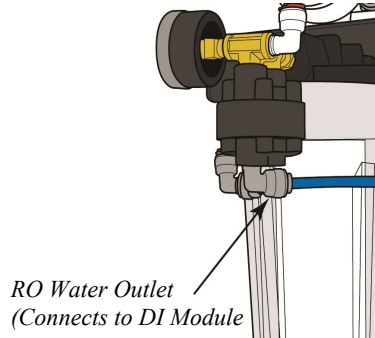

Figure 14
Measure and cut a length of blue tubing to connect the reverse osmosis (RO) water outlet on the main assembly to the INLET of Deionization module. Typically, this tubing is routed behind the main assembly. Insert tubing into fittings and secure with red lock clips provided. (See Figures 14 & 15, and installation diagram on page 48.)